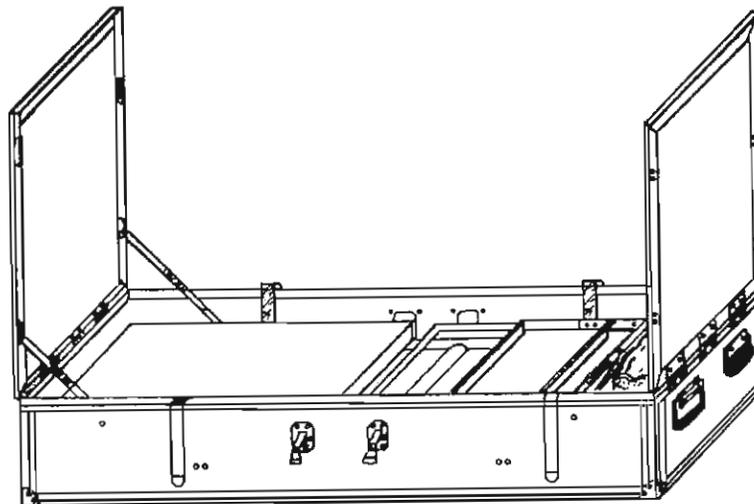

Figure 2-1. Carrying case.
a. *Removal from carrying case (fig 2-1).*
- (1) Open carrying case lids.
- (2) Unbuckle the straps holding the table down in its carrying case.
- (3) Remove component parts and pouches.
- (4) Remove table from carrying case.